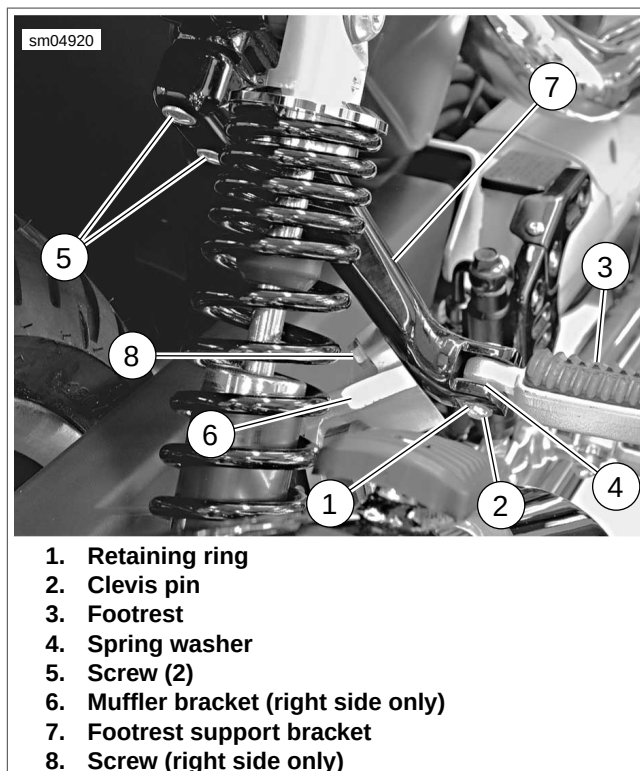

Figure 2-264. Passenger Footrest Assembly: XR Models
1. See Figure 2-264. Remove retaining ring (1), clevis pin (2), footrest (3) and spring washer (4). Discard retaining ring.
2. On right side of vehicle, remove screw (8) securing muffler bracket (6) to footrest support bracket (7).
3. Remove two screws (5) and footrest support bracket from frame.
1. See Figure 2-264. Attach footrest support bracket (7) to frame with two screws (5). Tighten to 45-50 ft-lbs (61-68 Nm)).
2. Attach muffler bracket (6) to footrest support bracket with screw (8). Tighten to 15-19 ft-lbs (20.4-25.8 Nm).
3. Install footrest (3) on footrest support bracket with spring washer (4). Make sure spring washer is positioned inside support bracket mounting boss with the square edge toward the inside.
4. Align holes in footrest and support bracket and push clevis pin (2) from top down through hole in support bracket. Secure with **new** retaining ring (1).